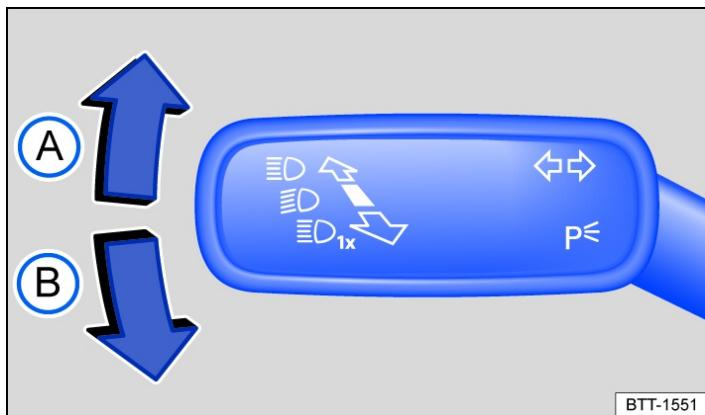

Fig. 1 On the left-hand side of the steering column: turn signal and main beam lever.
- Move the turn signal and main beam lever from the centre position to the following position → *Fig. 1*:
- (A) Right-hand parking light is switched on.
- (B) Left-hand parking light is switched on.